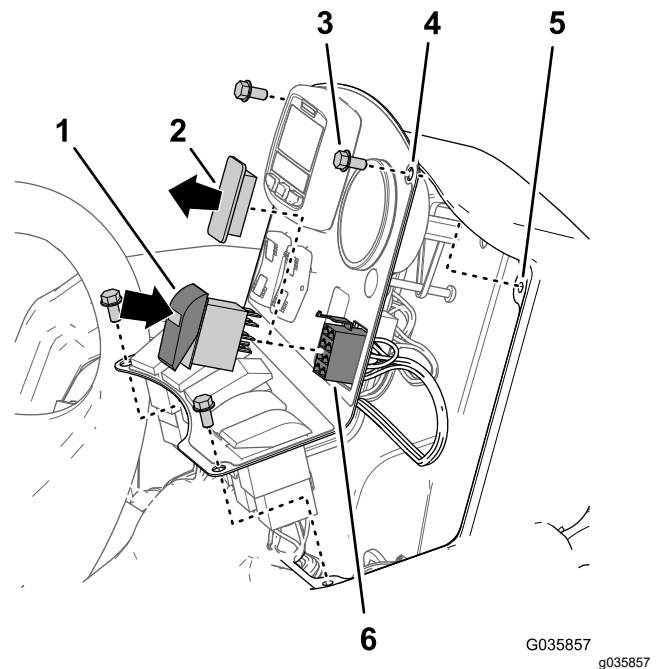

Figure 35
1. If installed, remove the 4 flange-head bolts (1/4 x 1/2 inch) that secure the control panel to the console as shown in Figure 35.
2. Remove the switch plug from the control panel of the console (Figure 35).
3. Align the Connect the 8-socket connector of the wiring harness of the ultra sonic boom finishing kit through the opening in control panel (Figure 35).
4. Connect the 8-socket connector of the wiring harness of the ultra sonic boom finishing kit labeled SONIC MODE MANUAL VS. AUTO to the rocker switch (Figure 35).
5. Insert the rocker switch in the control panel opening until the switch snaps securely (Figure 35).
6. Align the holes in the control panel to the holes in the top of the console (Figure 35).
7. Secure the panel to the console with the bolts (Figure 35) that you removed in step 1.